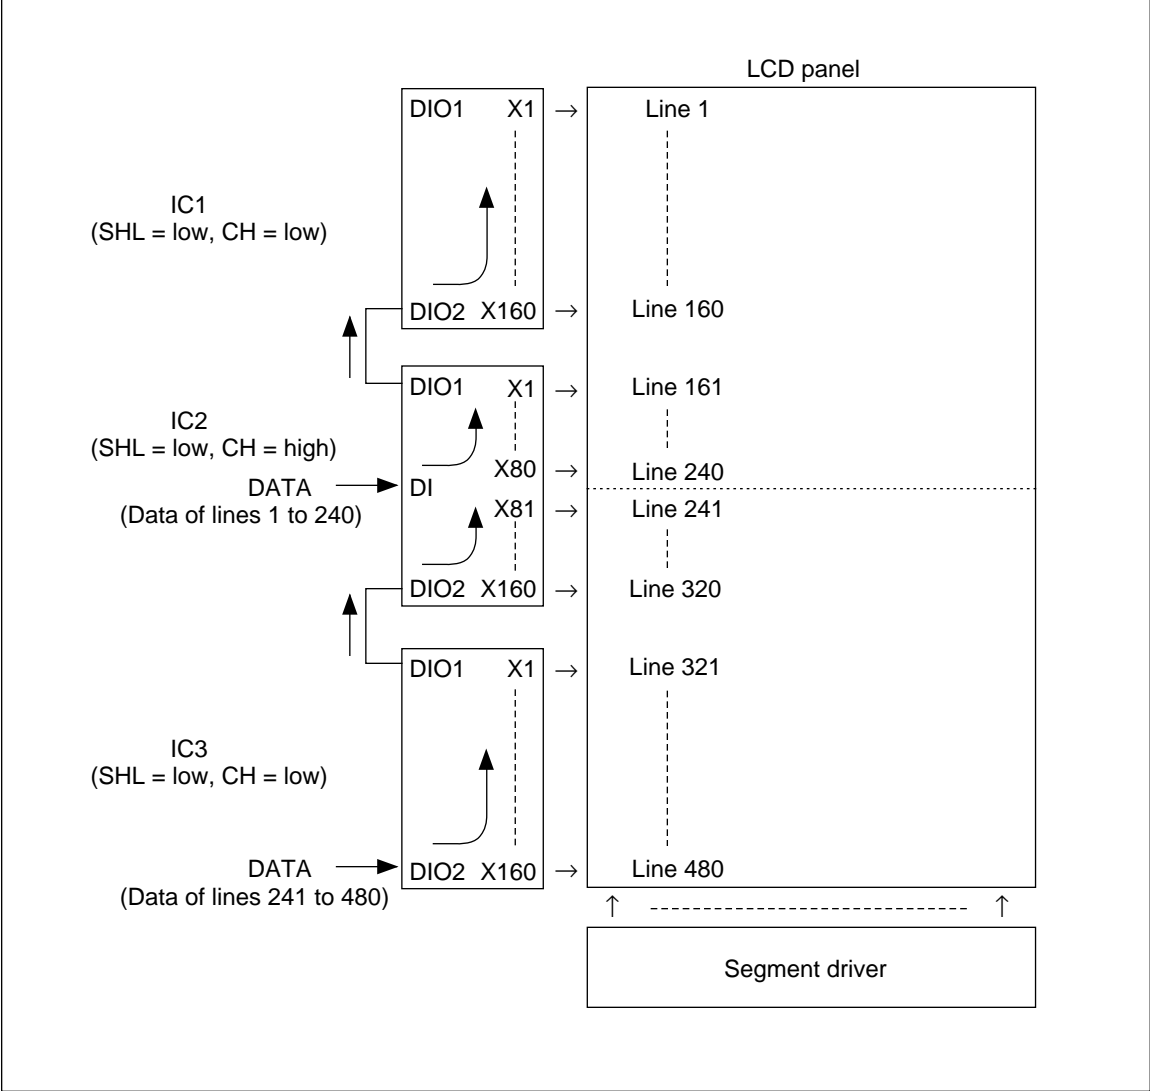

Figure 10 Dual-Screen Configuration of a 480-Line LCD Panel with a 1/240 Duty Cycle (2)
Figures 8 and 9 show examples of how HD66115Ts can be configured to drive a 480-line LCD panel with a 1/240 duty cycle. Figures 10 and 11 show examples of how HD66115Ts can be configured to drive a 480-line LCD panel with a 1/480 duty cycle. The HD66115T's 160 channels can be divided into two groups of 80 channels, and its data shift direction can be changed by selecting the data output mode pin (CH) and data shift pin (SHL), respectively.